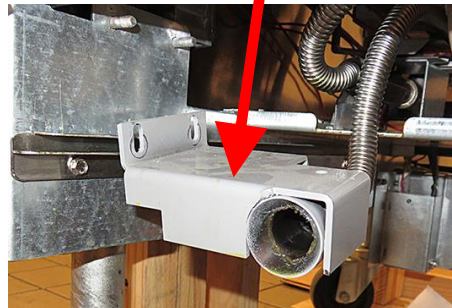

Figure 50
48. Lower the pick-up tube assembly down out of the way (see Figure 50).